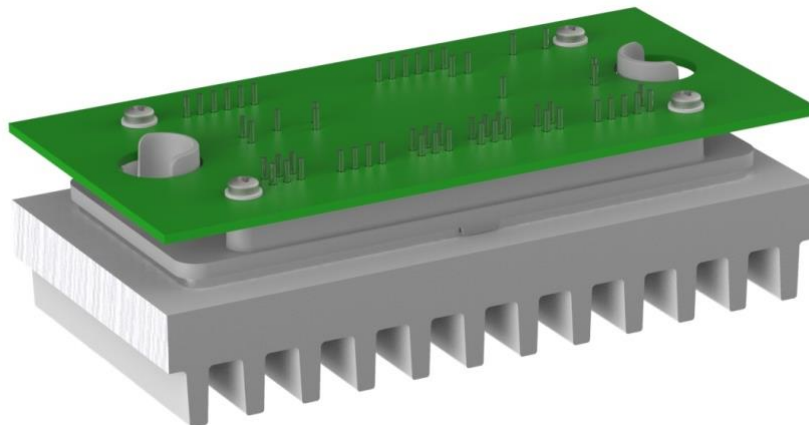

Figure 28: Assembly illustration
- The solder pins of the *flow 2* modules are plated with a nickel underlayer and a continuous tin finish to promote solderability. The tin finish can be discoloured due to production process or storage conditions. This is merely a cosmetic imperfection and does not influence the solderability of pins. Different solder pins on the same module may exhibit different levels of discoloration as shown in the examples in Figure 28.